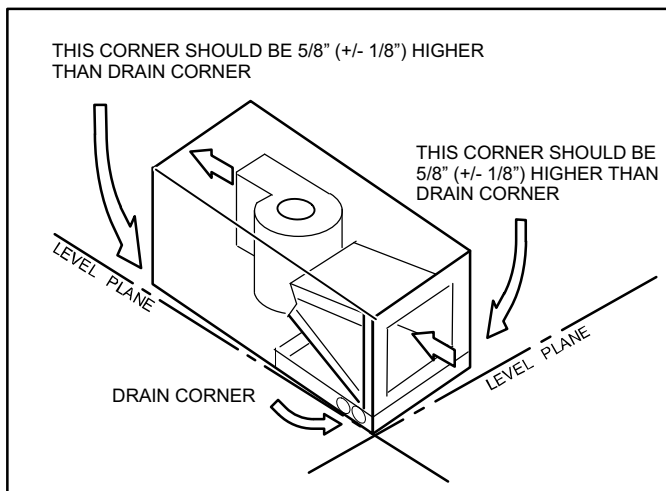

Figure 9. Sloping the Unit for Proper Drainage
- 3 - Set unit so that it is sloped toward the end of the unit with the drain pan (see figure 9).
Make sure the unit is sloped (similar to the slope shown in figure 9) (horizontal or up-flow) so that the drain pan will empty completely without water standing in the pan.